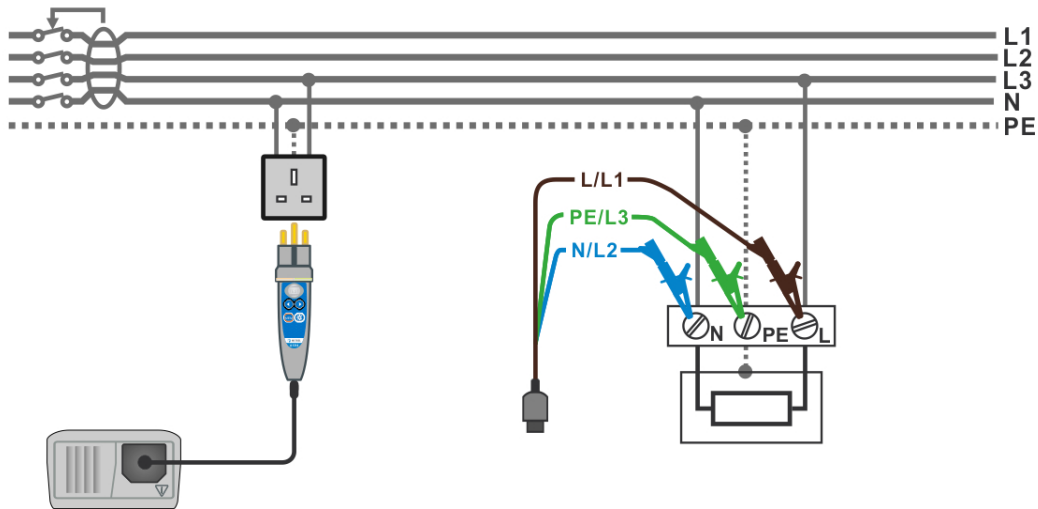

Figure 5.22: Connecting the plug cable or commander and the universal test cable
- ❑ **Connect** test leads to the item to be tested (see figure 5.22).
- Connect** test leads to the item to be tested (see figure 5.22).
- ❑ **Connect** test leads to the item to be tested (see *figure 5.22*).
| <ul style="list-style-type: none"> □ Select the RCD function using the function selector switch. □ Set sub-function AUTO. □ Set test parameters (if necessary). □ Connect test cable to the instrument. □ Connect test leads to the item to be tested (see figure 5.22). □ Press the TEST key to perform the test. | Start of test |